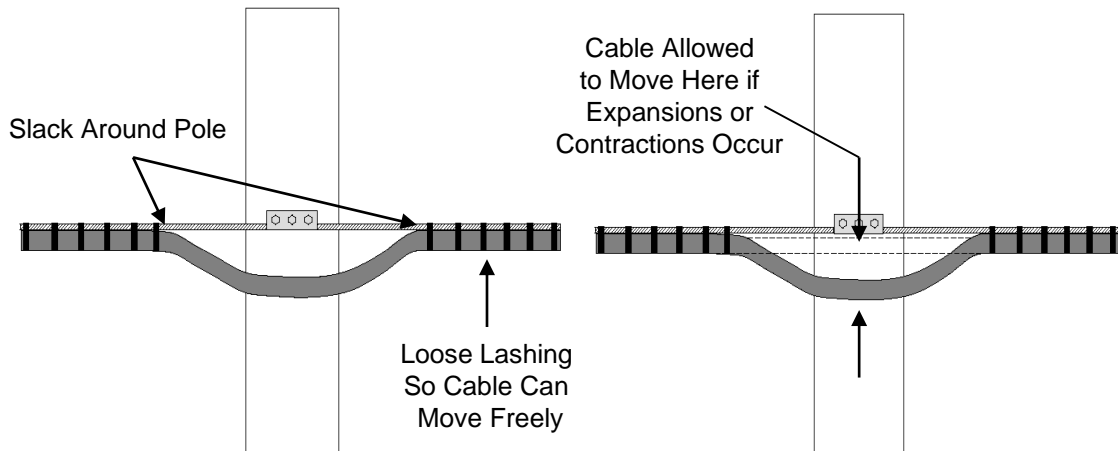

Figure 8
10.8 In aerial applications, ensure lashing or outdoor rated cable ties are loose on either side of the pole so the cable can move at the pole. **See Fig. 8.**